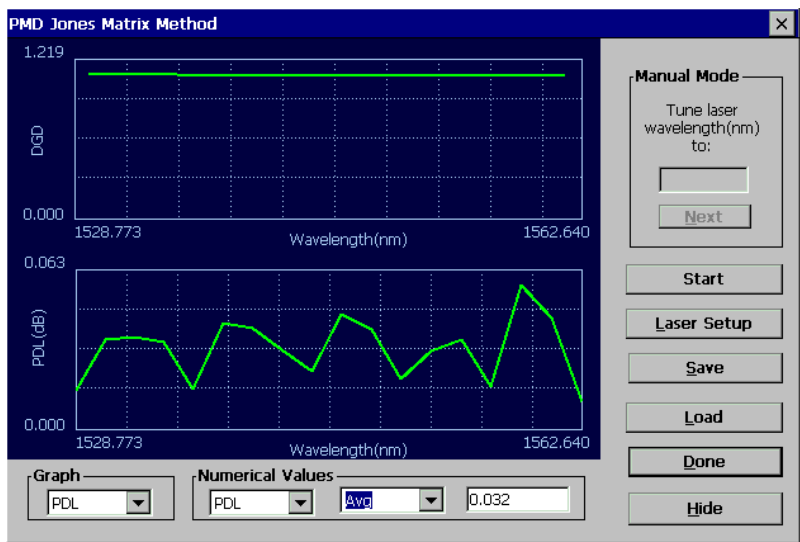

Figure 27 PDL Measurement interface
- 2) After the laser setup is finished, click “**OK**” to proceed to the measurement interface (Figure 27). Click “**Start**” to start the measurement. Select “PDL” from the pull-down menu in the Graph box. The real time wavelength dependence of the PDL will be shown on the lower graph. After the measurement is finished, use the pull-down menus in the “Numerical Values” box at the bottom of the screen to display the average, RMS, standard deviation, maximum, or minimum value of the measured PDL.